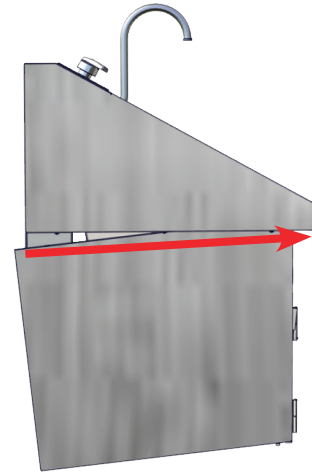

Fig. 11: Tilt Sink Base
10. Tilt the sink base upwards towards the front so that the lip of the front panel of the base slides on the bottom shroud (Fig. 11).